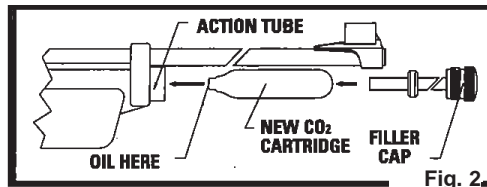

Fig. 2
- Insert the new CO₂ cartridge into the airgun with the small neck of the CO₂ cartridge into the action tube first. (Fig. 2)
- Put 1 drop of Crosman 0241 Pellgunoil® on the tip of every CO₂ cylinder to help maintain your airgun. (Fig. 2) DO NOT use petroleum distillate based oil or solvent and DO NOT over-oil as this can cause damage to your airgun.